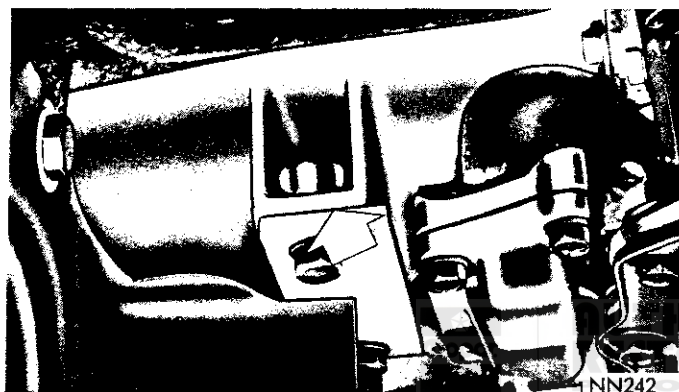

Fig. 7—Shim Location (Front Universal Joint Angle Correction)
(6) Observe position of bubble in spirit level and compare the position with that shown on Chart (Fig. 13) for front joint angle. A normal joint angle will cause bubble to position itself within the acceptable range. If bubble is found to be slightly forward of the acceptable tolerance range, this means that the angle is actually smaller than that specified and does not need correcting. If bubble in spirit level is found to be rearward of the acceptable range, the angle is too large, and must be corrected. To reduce front universal joint angle, install a flat shim between the transmission extension housing and rear engine mount (Fig. 7). Flat shims 1/8 inch in thickness are required to move the bubble in spirit level one graduation.
(7) To install shim, loosen bolts in rear mount to transmission extension housing.
(8) Raise transmission sufficiently using a floor stand and block of wood beneath transmission oil pan.
(9) Install 1/8" shim, lower transmission, remove floor stand and tighten bolts in rear mount to transmission extension housing to specifications.
(10) Recheck front joint angle, starting with step (1) of "Procedure."